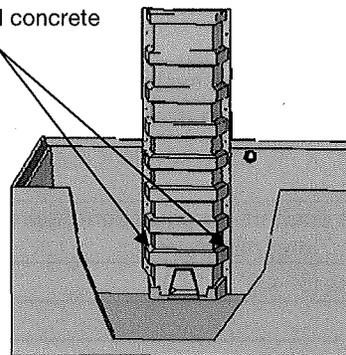

Figure 5
1.5.3 Tighten it with the two bottom stainless steel concrete anchors as described on Figure 5.